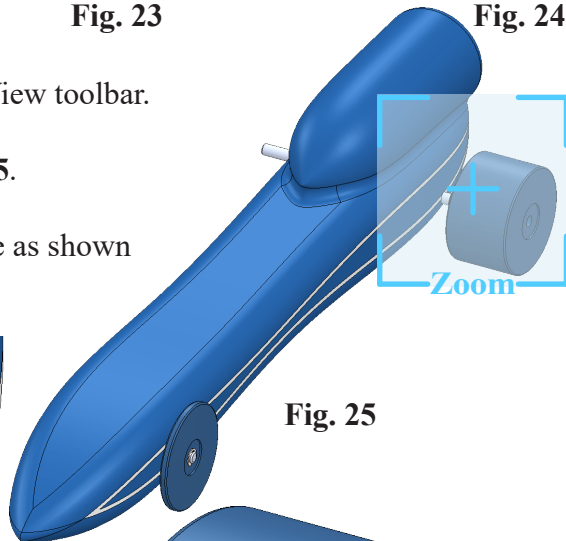

Fig. 25
Step 2. Zoom in around **Rear Wheel**, Fig. 25.